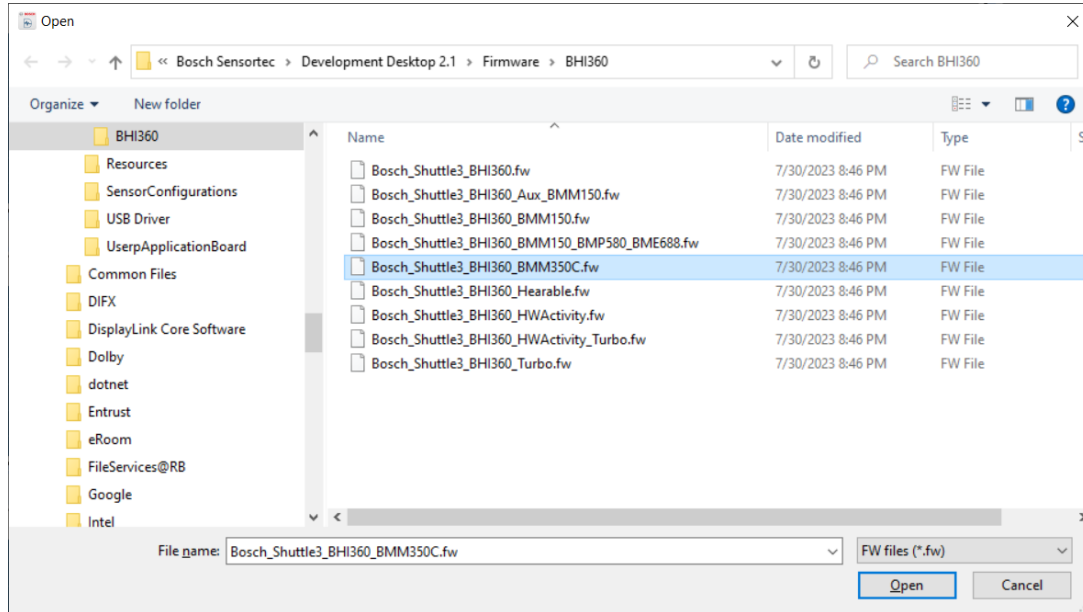

Figure 3 Locate RAM patch
- Click the “...” button and then select the “Bosch\_Shuttle3\_BHI360\_BMM350C.fw” that is located in the “C:\Program Files\Bosch Sensortec\Development Desktop 2.1\Firmware\BHI360” folder as shown in Figure 3. Click “Open” button.